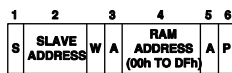

Figure 39. Setting A RAM Address For Subsequent Read
1. To write a register address to RAM for a subsequent single byte read from the same address or block read or write starting at that address. This is illustrated in Figure 39.